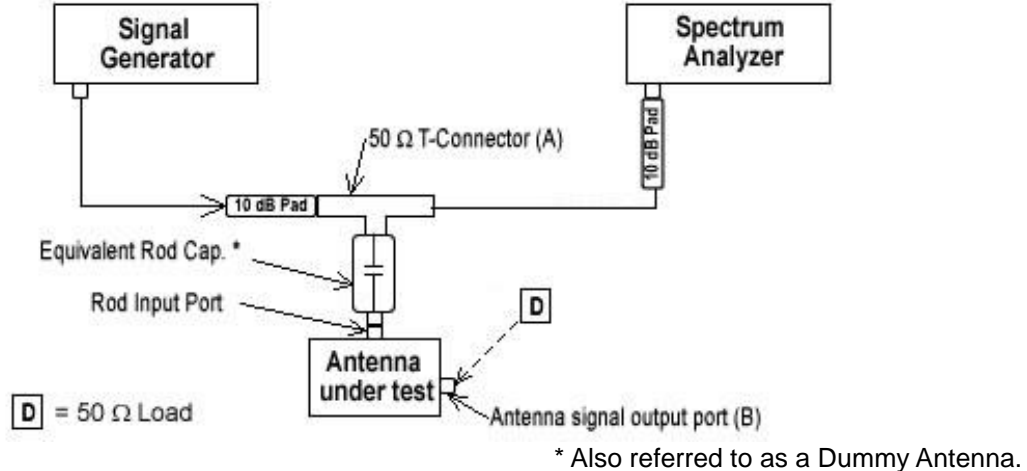

Figure 1
- 1) With the equipment connected as shown in Figure 1, measure the drive signal voltage  $V_D$  in  $\text{dB}\mu\text{V}$  at the T-connector (A).